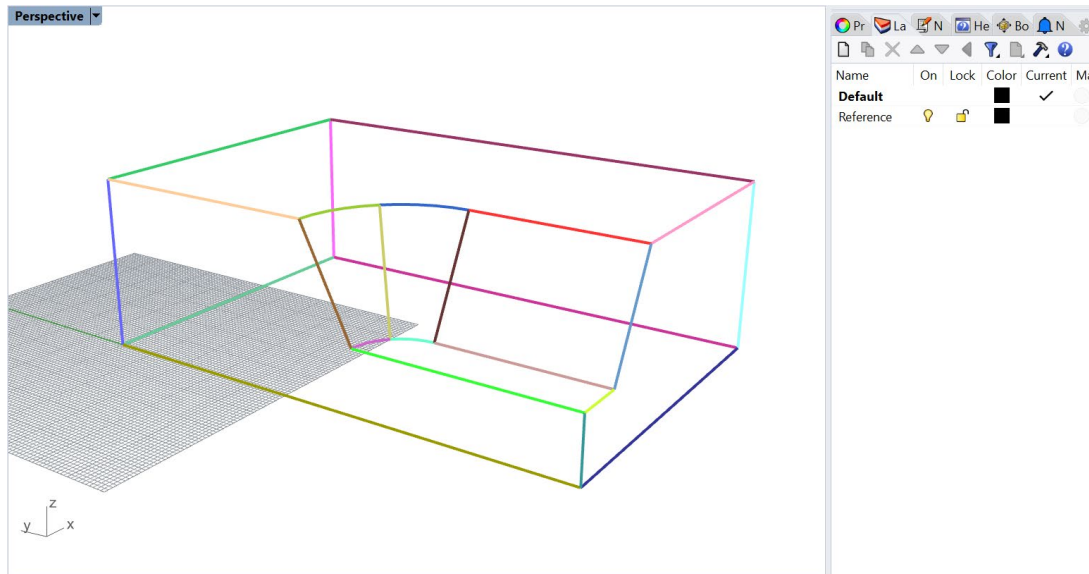
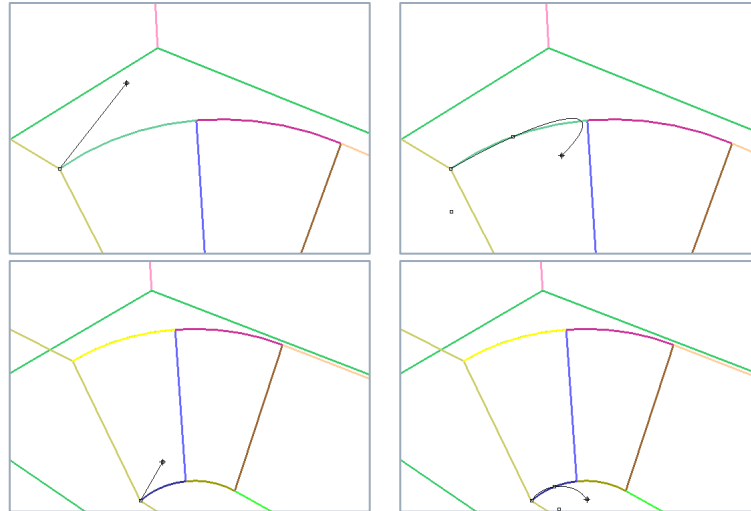
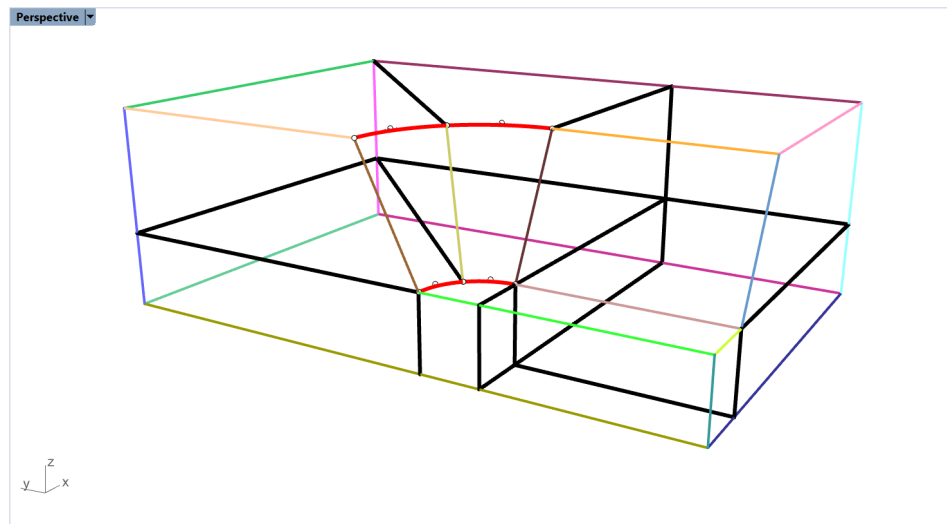

Figure 31: The reference model.
Figure 38: Building the upper (top) and lower (bottom) arcs.
Figure 39: Red arcs retrace the original polylines at the curved section of the model.
5. Navigate to the *Layers* pane as shown in Figure 31. If the pane is not visible, open it by going to **Edit** → **Layers** → **Edit Layers...** In the *Layers* pane, rename the automatically created layer “lines” to “Reference” and delete all layers except “Default” and “Reference”. Ensure that all objects are now in layer “Reference” by selecting all objects and navigating to the *Properties* pane (or press **F3**).
6. Select all objects and type the command **_Move**. For the *Point to move from*, select the bottom-left corner of the model and for the *Point to move to*, type 0. This will move all objects and align the bottom-left corner of the model with zero coordinates. Compare the results with Figure 31.
- Starting with the reference model presented in Figure 31, create new construction lines as shown in Figure 38. Use the **_Line** command and start by connecting nodes from the middle of the model (where the curved segments are) to the sides of the model. Pay attention to when the mouse tooltip shows “Perp” or “Perp, Int” (or other types of intersections), which means that the line under construction is perpendicular to (and intersects) another line.
The curves created in the previous step (Figure 31) are polylines, and some of them are composed of multiple linear segments that cannot be used directly to build surfaces. They must be retraced with arcs (**Curve → Arc**) or higher order curves (**Curve → Free-Form → Interpolate Points**) to create simpler two-noded curves.
- Zoom in around the curved segments in the model and select in the top menu **Curve → Arc → Start, Point, End**. Create separate arcs at each curved segment of the model as shown in Figure 38 and Figure 39. In total, four arcs should be created. Pay attention to when the mouse tooltip shows “End, Int, Knot” when connecting to the points in the middle of the curved segments. Such a tooltip means the mouse is at the end of a line, hit an intersection with another line, and is at a knot.